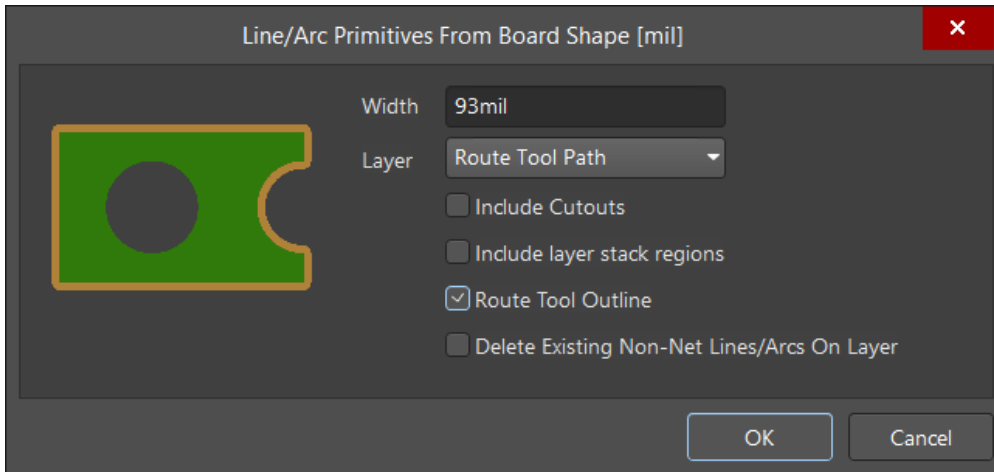

Figure 8. Line/Arc Primitives From Board Shape dialog
20. Set the options in the *Line/Arc Primitives From Board Shape* dialog as follows below. Also use Figure 8 below as a reference: